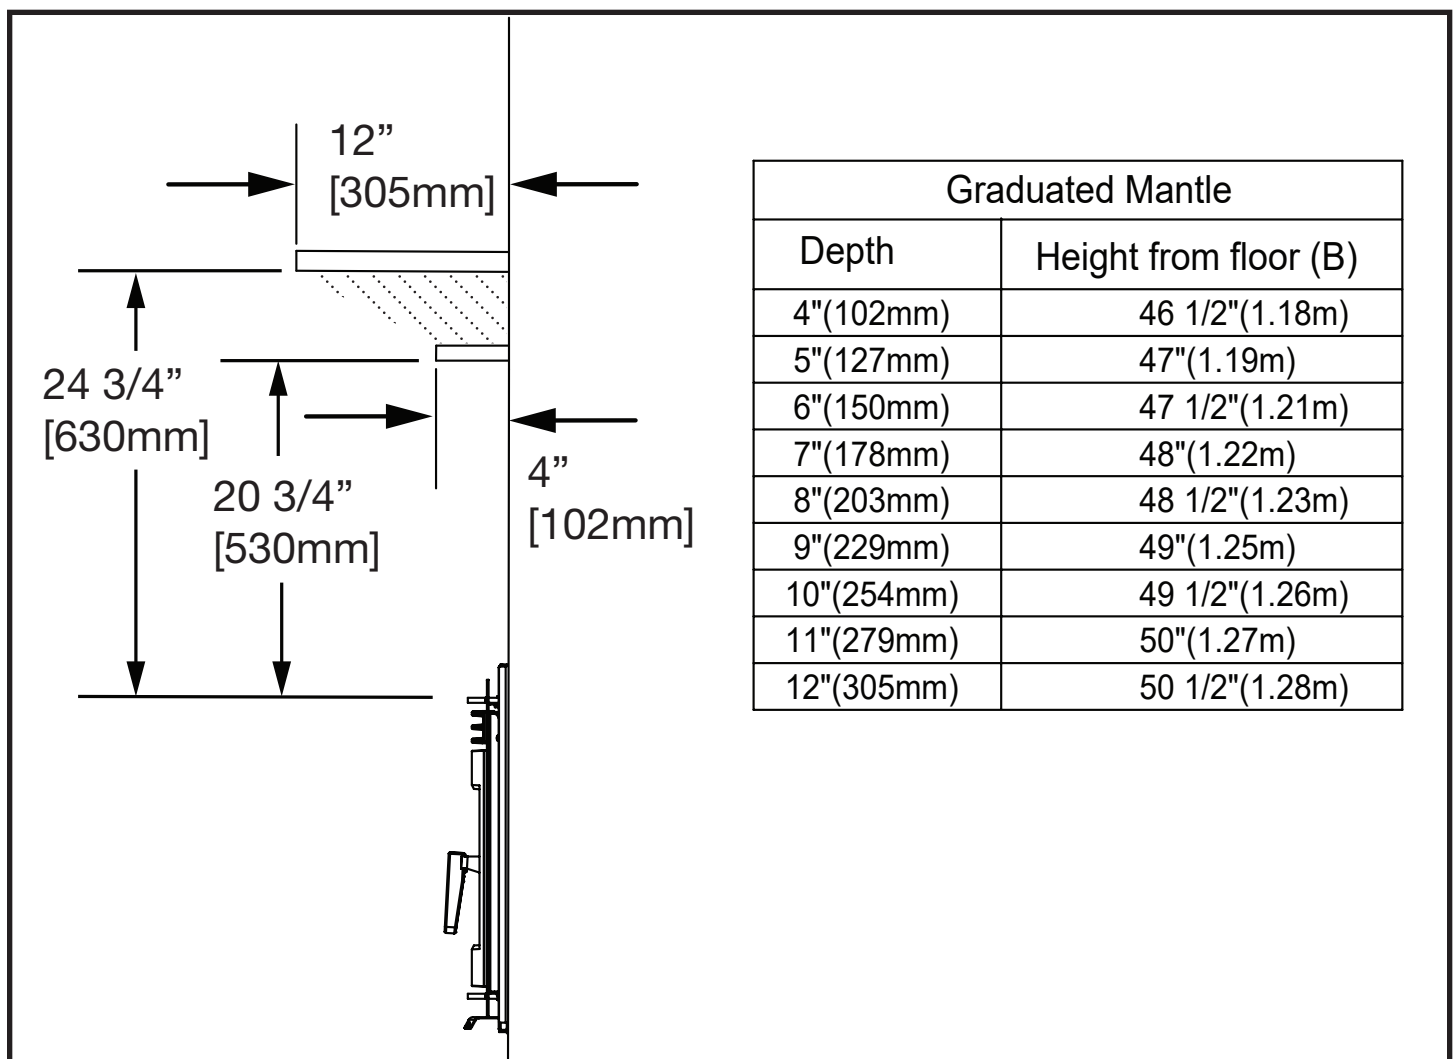

Figure 23: FP16 LE Mantle Clearance Chart.
- Above the Heat Exchanger's Air Deflector up to a minimum of "Figure 23: FP16 LE Mantle Clearance Chart." on page 27, depending on depth.